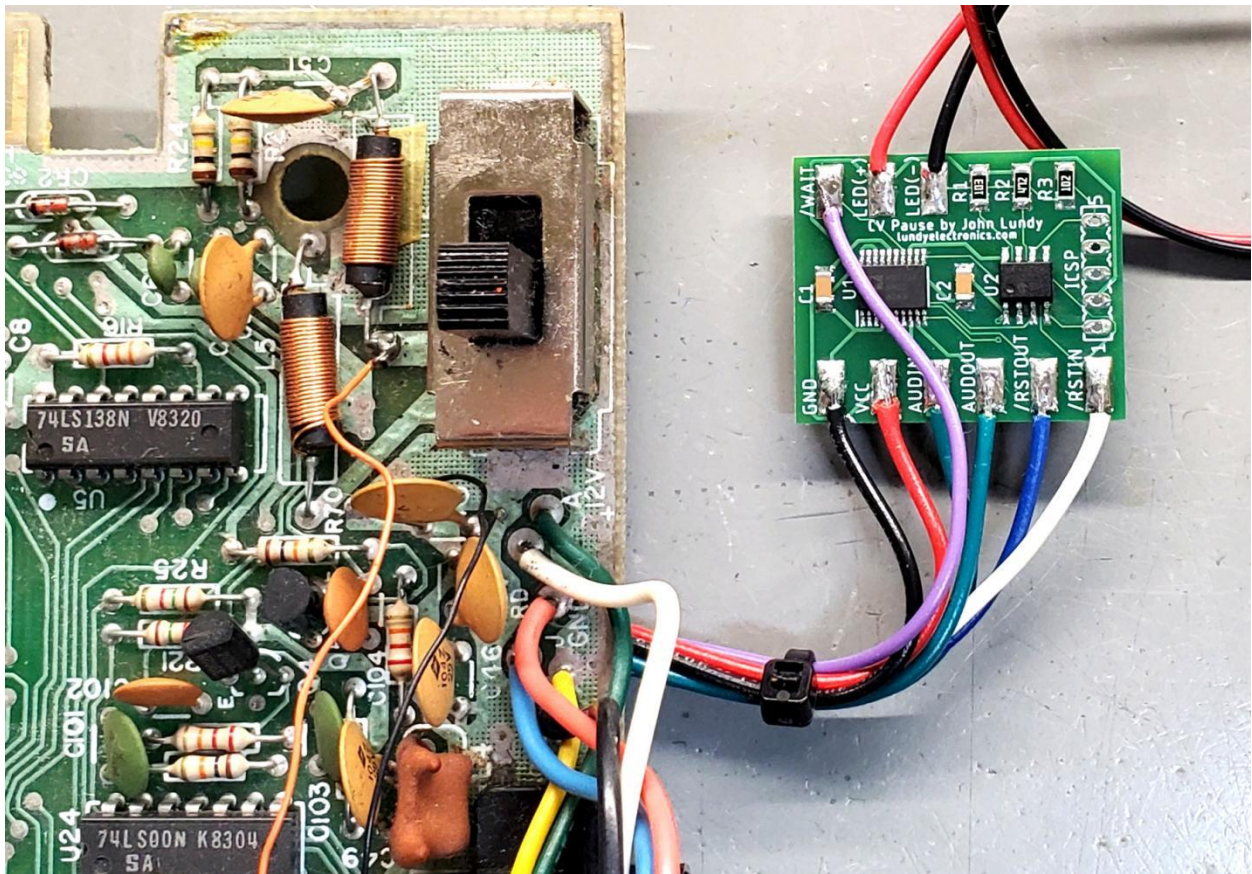

Figure 8: Cleanly trim, strip, and solder wires to the Pause Mod PCB
Step 3: Flip the ColecoVision PCB to show the top side on the PCB. Cleanly trim, strip, and solder wires to the Pause Mod PCB as follows. See **Figure 8**.